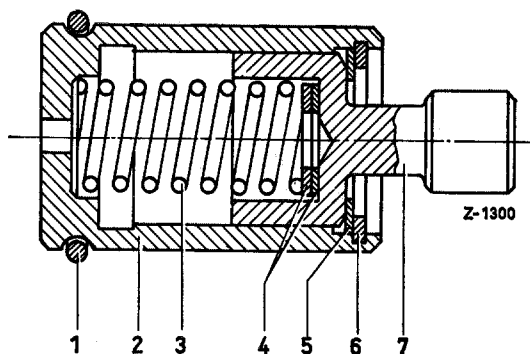

Figure 07-1/1
If the adjustment travel value is too high or too low, the position of the stop pin (7) in the spring capsule housing (2) should be varied by placing washers (5) between stop pin shoulder and lock ring (6) (see Figure 07-1/1).
**Caution!** This variation also varies the pre-tension in the spring capsule. This should be compensated for by placing washers (4) between additional spring (3) and stop pin bottom in order to obtain the specified pre-tension of 50-90 grams.